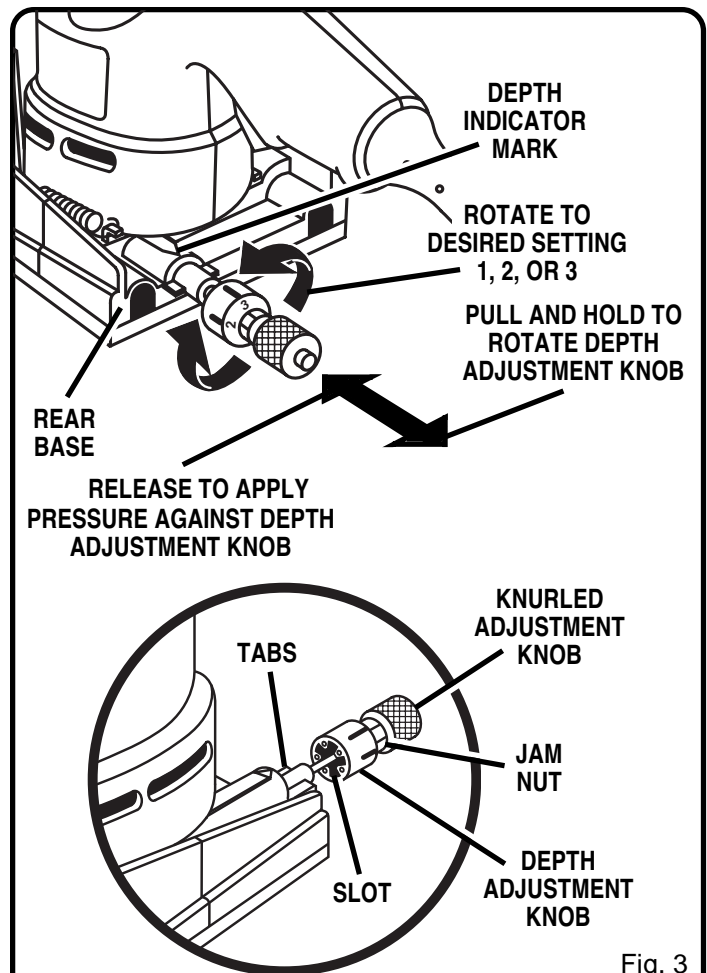

Fig. 3
Your biscuit joiner can be adjusted to three standard cutting depths to accommodate three standard size biscuits — #R1, #R2, and #R3. Adjustments are made by engaging slots on depth adjustment knob with tabs on rear base. For example, when using a #R1 size biscuit, rotate the depth adjustment knob until the slot marked 1 aligns with the depth indicator mark on the rear base. When using a #R2 size biscuit, rotate the depth adjustment knob until the slot marked 2 aligns with the depth indicator mark on the rear base, and when using a #R3 size biscuit rotate the depth adjustment knob until the slot marked 3 aligns with the depth indicator mark on the rear base. See Figure 3.
- Pull knurled adjustment knob and jam nut in the direction of the arrow shown in figure 3.